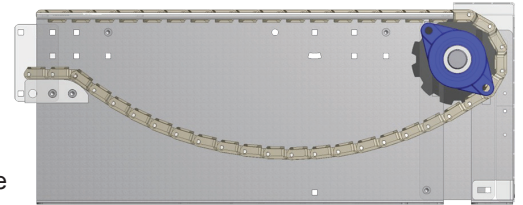

Figure 2
- **Catenary length** - (See Figure 2)